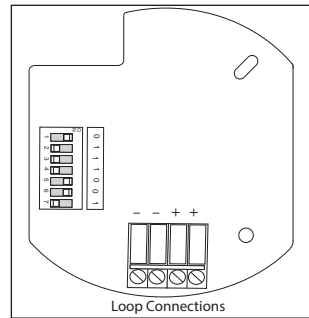

Fig. 3 Terminal Block Connections
- Run the cables into the backbox and connect them to the terminal block as shown in Fig. 3. Ensure that the functional earth/screen is maintained and all terminations are in accordance with BS EN 60079-14.